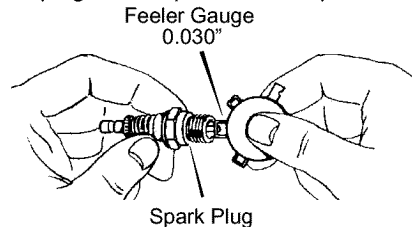

Figure 28
2. Check the **spark plug** gap with a **feeler gauge** and reset gap to 0.30" if necessary. See Figure 28.